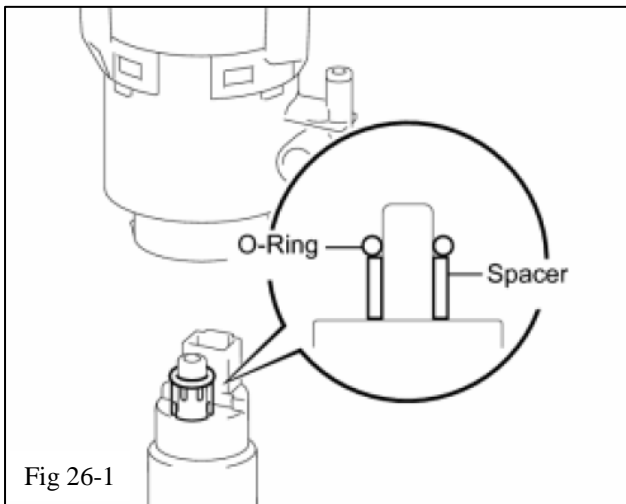

Fig 26-1
- (a) Apply a light coat of gasoline to the new O-ring (J3). Then install the spacer and O-ring onto the fuel pump as shown. (Fig. 26-1)